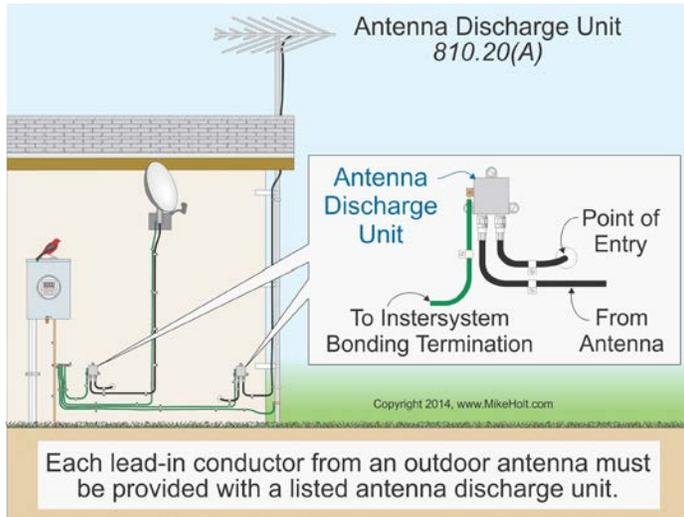

Figure 810-10
**(A) Where Required.** Each lead-in conductor from an outdoor antenna must be provided with a listed antenna discharge unit. Figure 810-10